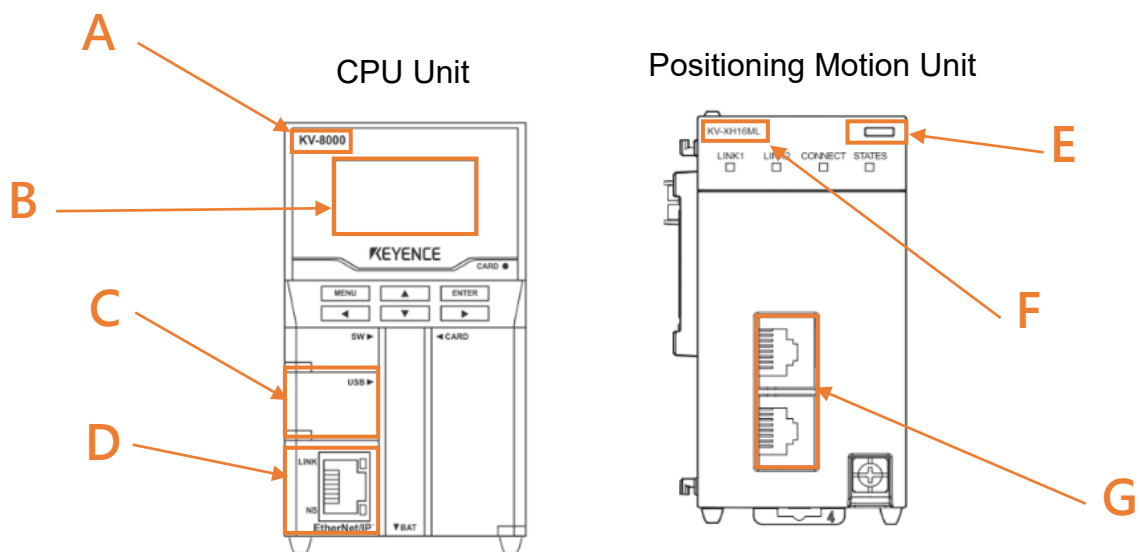

Figure 1.1.2
10. Check if the communication path is **USB**, and press **PLC Transfer > Execute**. At this time, the display light on the upper right side of the positioning motion unit will turn from red to green (refer to **Field E** in Figure 1.1.2), representing successful setup of CPU unit and positioning motion unit.